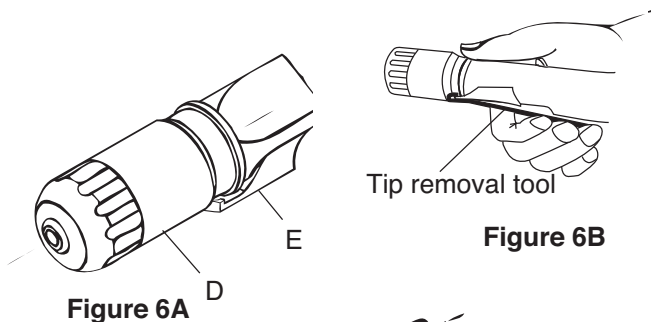

Figure 6B
1. To remove the tip body (D) place the tip body removal tool on the tip security lever (E), figure 6A. Squeeze and hold as shown in figure 6B while unscrewing the tip body.